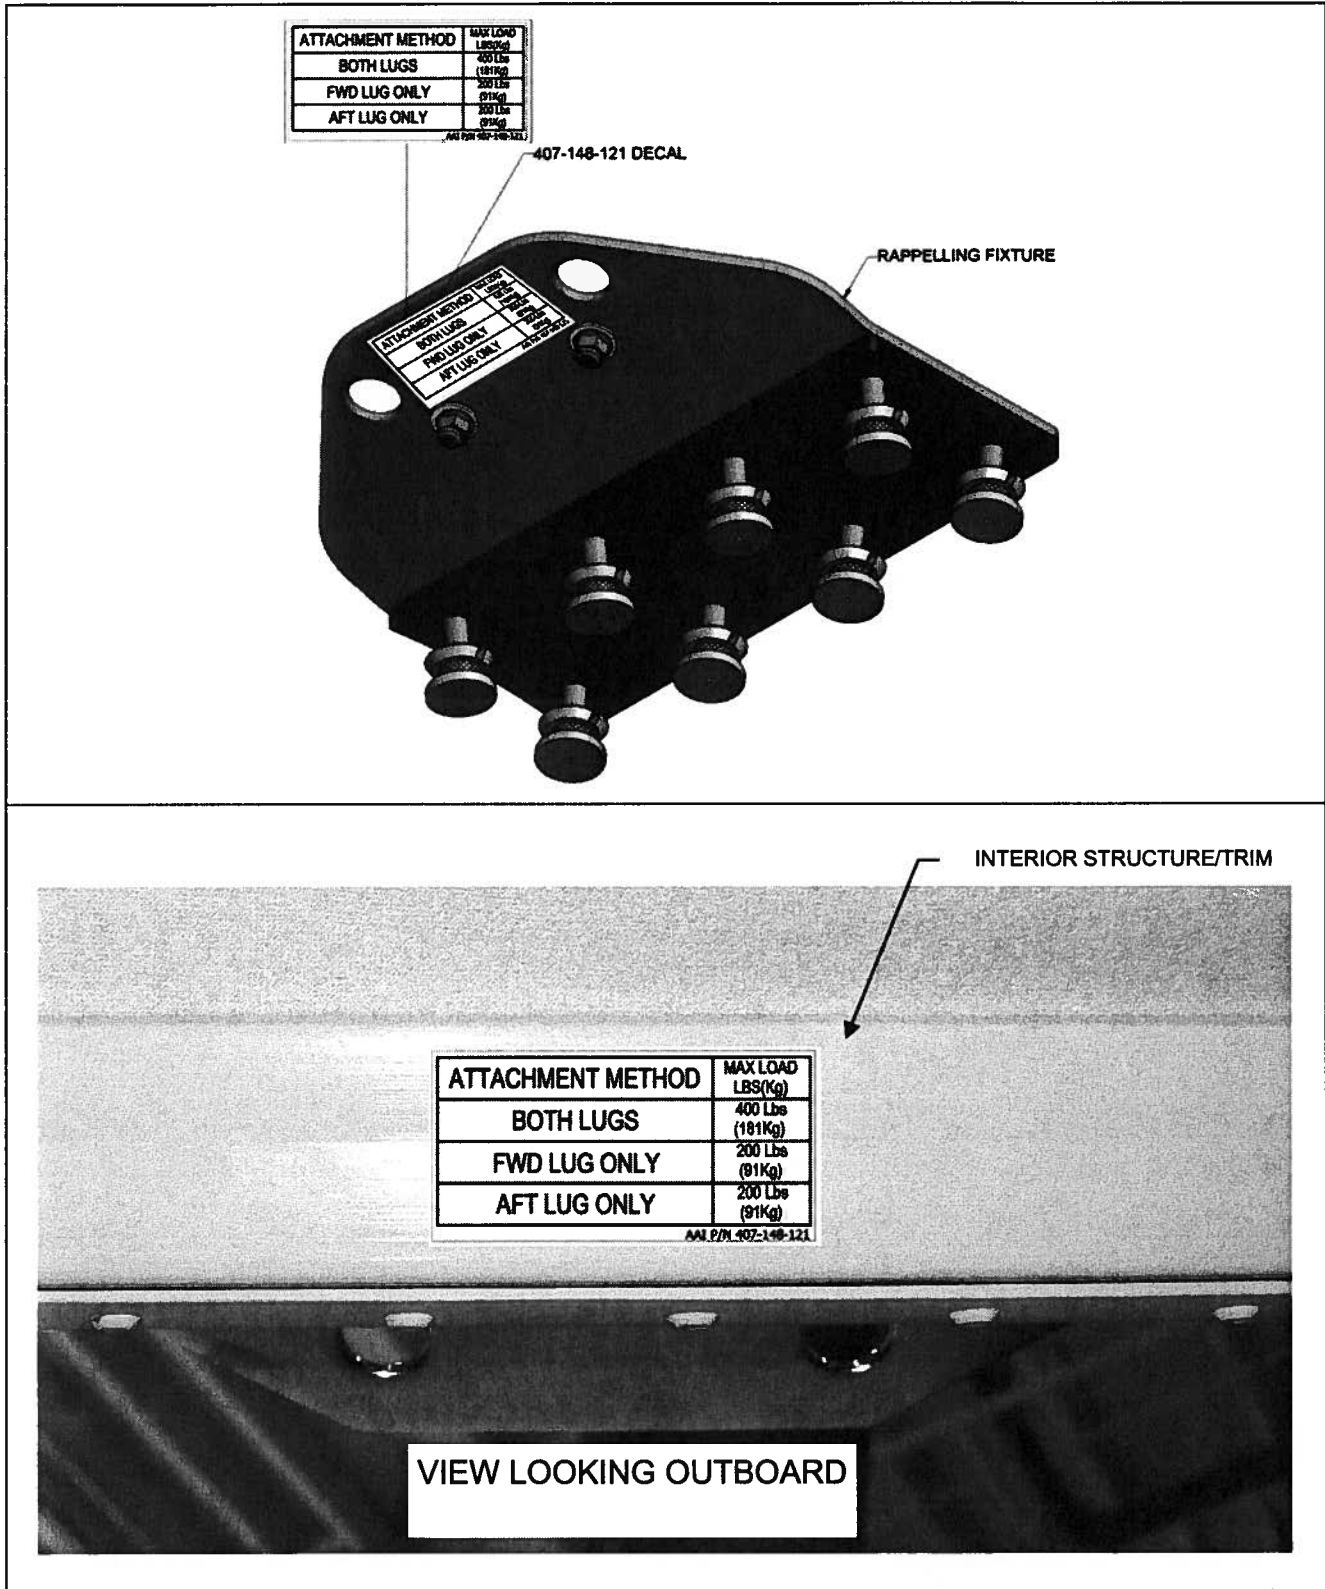

FIGURE 1. 407-148-121 DECAL MOUNTING LOCATIONS
3. Upon receipt of materials, lightly polish the Rappelling Fixture decal area (see Figure 1) using Scotch-Brite pad. Take care to remove as little of the component protective coating as possible.
7. Apply decal (Figure 1) to Rappelling Fixture and aircraft interior structure/trim.